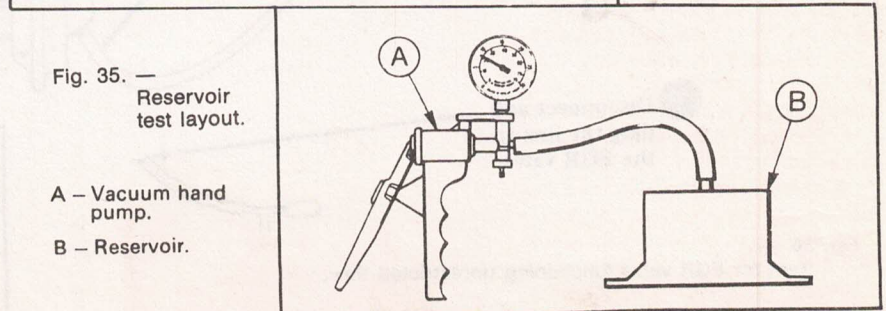

Fig. 35. — Reservoir test layout.
5. Switch off the engine, disconnect the hand pump and reconnect the vacuum line. Fig. 35.
### (c) Check the operation of the PVS Fig. 35.